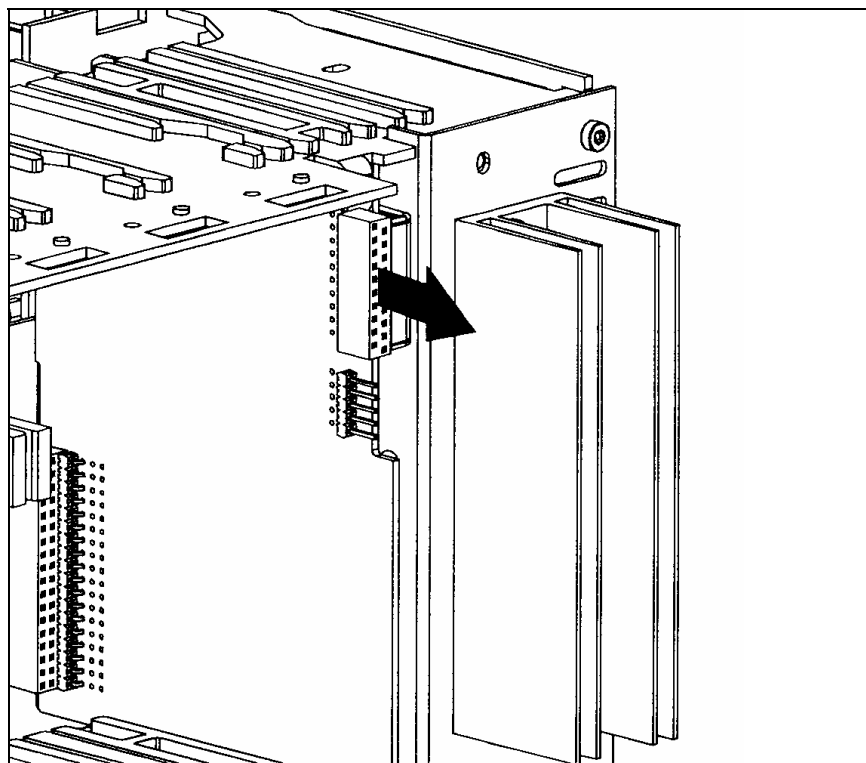

Figure 2-8
17. Disconnect the flat cable from the CPU board. (See Figure 2-8)